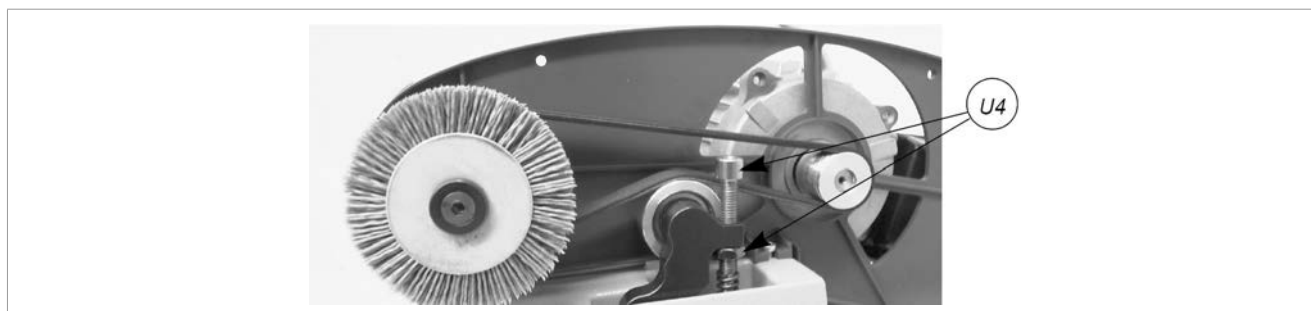

Fig. 40
- screw the screw/nut (U4) until the belt is properly tightened (Fig. 40).
- 9) Loosen the grub screw/nut (U4) (Fig. 40) in order to lower the belt tightening pulley and pull the belt off the motor pulley.
- 15) Tighten the grub screw/nut (U4) until the belt is properly tightened (Fig. 40, page 27).